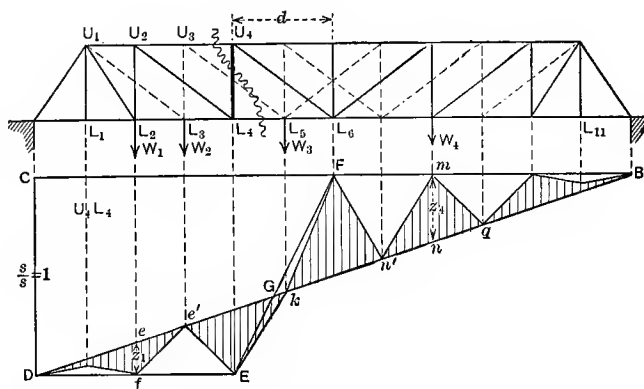

FIG. 21.
**Vertical of Whipple Truss.**—The vertical  $U_4L_4$  is a member of the truss shown by the full lines, Fig. 21. The influence diagram for vertical shear in the panel cut is  $DEFBD$ . For loads at panel points  $L_2$ ,  $L_4$ ,  $L_6$ , etc., the ordinates of this influence diagram are correct for unit loads. The loads at  $L_3$ ,  $L_5$ ,  $L_7$ , etc., are supported entirely by the truss shown by dotted lines and hence do not contribute any shear in the panel being considered, of the
truss shown by the full lines. Therefore, the ordinates in the influence diagram directly below these points are zero. Connecting these points with the ends of the ordinates which are correct, as shown in Fig. 21, the influence diagram shown by the shaded area is obtained. The loads  $L_1$  and  $L_{11}$  are assumed to be equally divided between the two trusses.